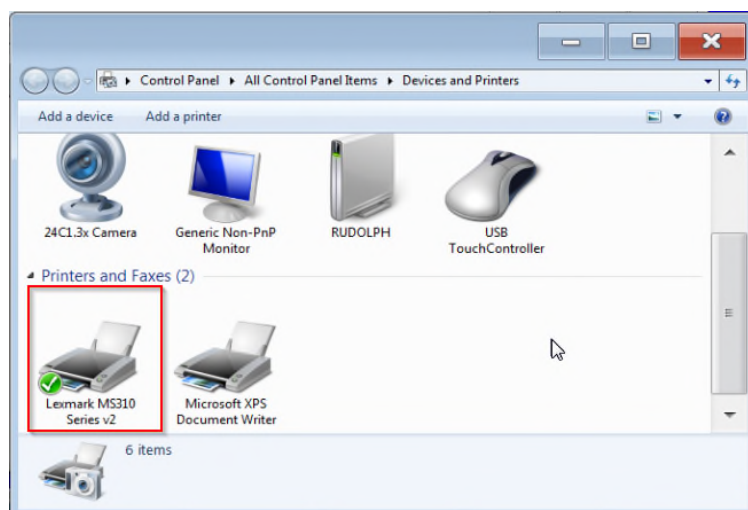

Figure 10.10 – Connected devices and Printers
- 4) Connect the USB cable from the desired Printer to AlcoTest™. When the Found New Hardware wizard starts, select **No, not this time** and click **Next**. (See Figure 10.10)